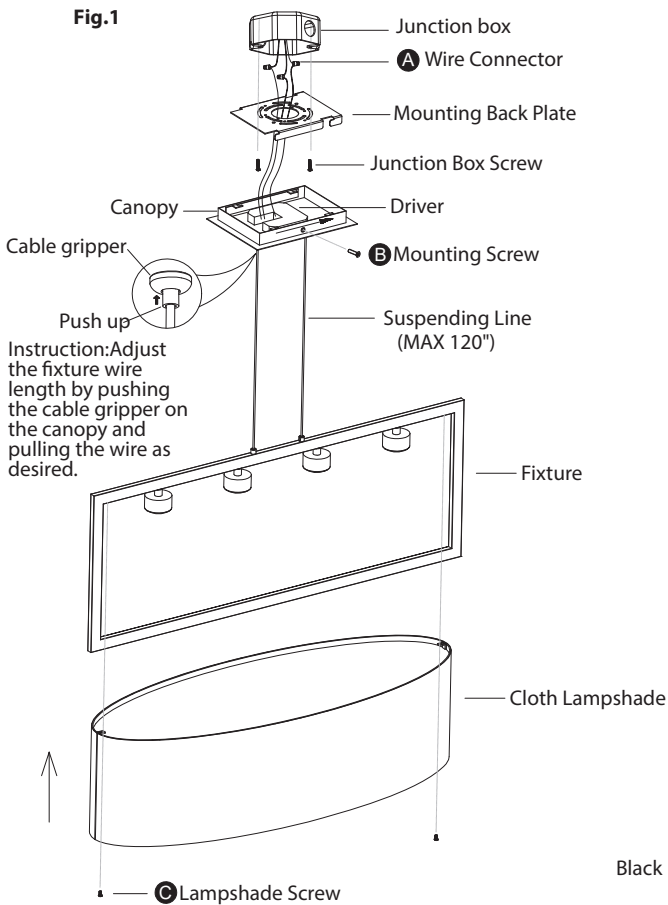

Fig.2 Wiring
CONNECTING THE WIRES (Fig. 2 / Fig. 3)
9. Connect the driver's input wires to junction box wires as shown in Fig. 2, make sure that all wire connectors(A) are secured. If your outlet box has a green or bare copper ground wire, connect the fixture's ground wire to it. Otherwise, connect the fixture's ground wire directly to the back plate using the screw provided. After wires are connected, tuck them carefully inside the junction box.
10. Secure the fixture to the mounting back plate using the mounting screw (B).